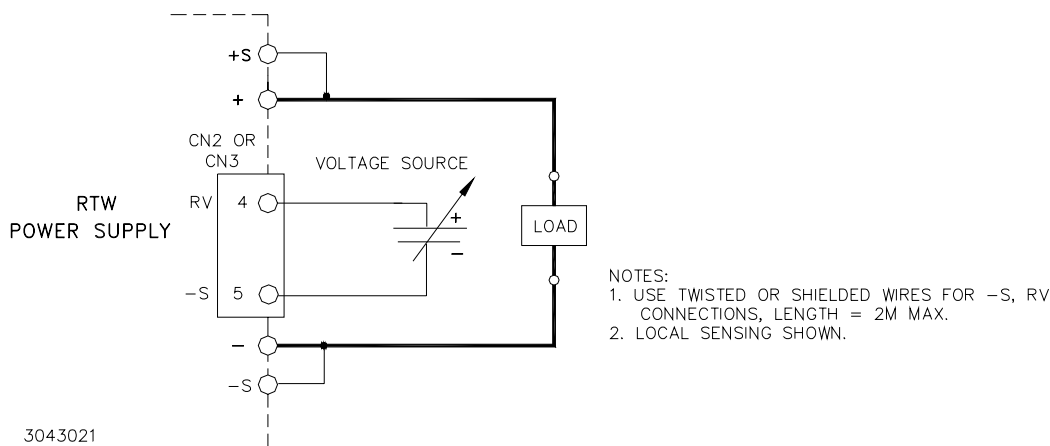

FIGURE 5. CONNECTIONS FOR REMOTE VOLTAGE CONTROL
Output voltage can be adjusted by an external voltage source using the Output Voltage External Adjustment function (RV) of connector CN2 or CN3. An RV voltage of approx. 5V can produce the rated output voltage. First monitor the \pm S terminals and use the Vadj control to establish the minimum output voltage desired (output voltage decreases when trimmer Vadj is turned counterclockwise). Then connect the external voltage source across the RV and -S pins of CN2 or CN3 as shown in Figure 5, using either twisted or shielded wires not more than 2 meters in length. Optional Cable Kit 219-0493 (PAR. 6.6) may facilitate connections. Specifications are met when voltage is within adjustment range shown in Table 1.